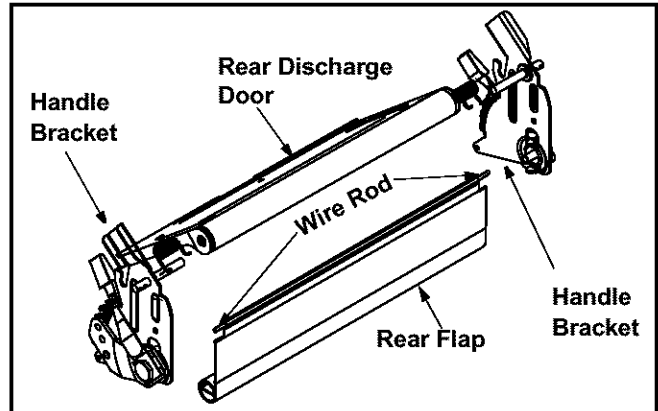

Figure 16
- To remove rear flap, cut off the flat end of the wire rod which secures it to the deck. See Figure 16.